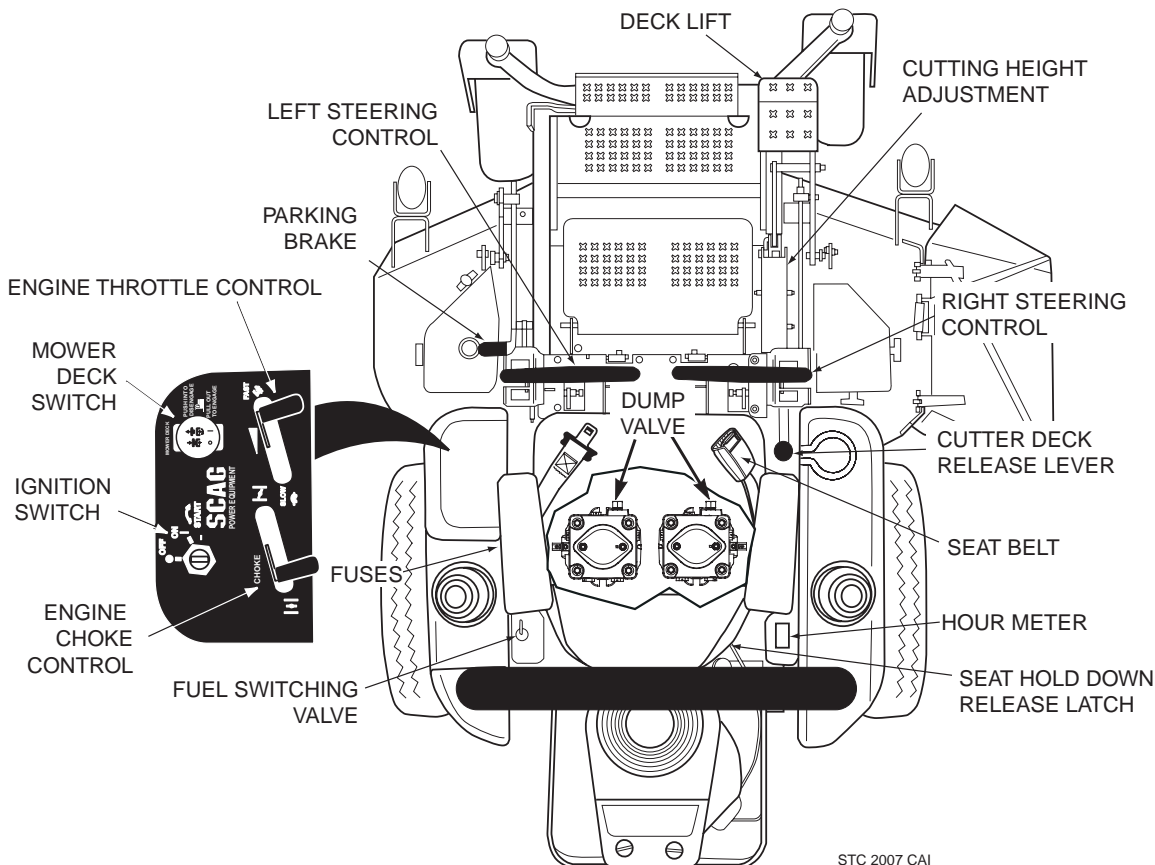

Figure 4-1. Controls and Instruments
1. **Ignition Switch (Figure 4-1).** The ignition switch is used to start the engine and has three positions; OFF, ON, and START.
2. **Mower Deck Switch (Figure 4-1).** Used to engage and disengage the mower drive system. Pulling up on the switch will engage the deck drive. Pushing down on the switch will disengage the deck drive.
3. **Engine Choke Control (Figure 4-1).** Used to start a cold engine.
4. **Engine Throttle Control (Figure 4-1).** Used to control the engine speed. Pushing the lever forward increases engine speed. Pulling the lever back decreases engine speed. Full back position is the IDLE position. Full forward is the cutting position.
5. **Hourmeter (Figure 4-1).** Indicates the number of hours the engine has been operated. It operates whenever the ignition key switch is in the ON position. Has preset maintenance reminders for engine and hydraulic system oil changes. Will start flashing scheduled maintenance 2 hours before preset time and continue flashing until 2 hours after. Automatically resets.
6. **Fuse Holders (Figure 4-1).** Two 20-amp fuses protect the mower's electrical system. To replace fuses, pull fuse out of the socket and install a new fuse.
7. **Left Steering Control (Figure 4-1).** Used to control the mower's left wheel when traveling forward or reverse.
8. **Right Steering Control (Figure 4-1).** Used to control the mower's right wheel when traveling forward or reverse.
9. **Parking Brake Control (Figure 4-1).** Used to engage and disengage the parking brakes. Pull the lever back to engage the parking brakes. Push the lever forward to disengage the parking brakes.
10. **Fuel Switching Valve (Figure 4-1).** Located on the left side of the machine. Used to shut off fuel supply to the engine and change fuel supply between the fuel tanks. Rotate the valve counter clockwise to supply fuel from the tank on the left side only. Rotate the valve clockwise to supply fuel from the tank on the right side only.
12. **Deck Lift Foot Lever (Figure 4-1).** Used to raise and lower the cutter deck. Push full forward to lock in the transport position.
13. **Cutting Height Adjustment (Figure 4-1).** Used to set the cutter deck at the desired cutting height.
14. **Deck Release Lever (Figure 4-1).** Used to lock the cutter deck in the transport position. Push the foot pedal forward and pull back on the release lever to release the cutter deck for normal mowing.
15. **Seat Belt (Figure 4-1).** Used to secure the operator. Seat belt must be worn at all times when the ROPS is in the upright and locked position.
16. **Seat Hold Down Release Latch (Figure 4-1).** Located behind the seat. Used to secure the seat in the operator's position. Release the latch to gain access under the seat.
Do not travel forward over a curb. The mower will hang up on the curb. Raise the deck and travel backwards over the curb at a 45 degree angle. (See Figure 4-1 items 12-14 for cutter deck raising description.)